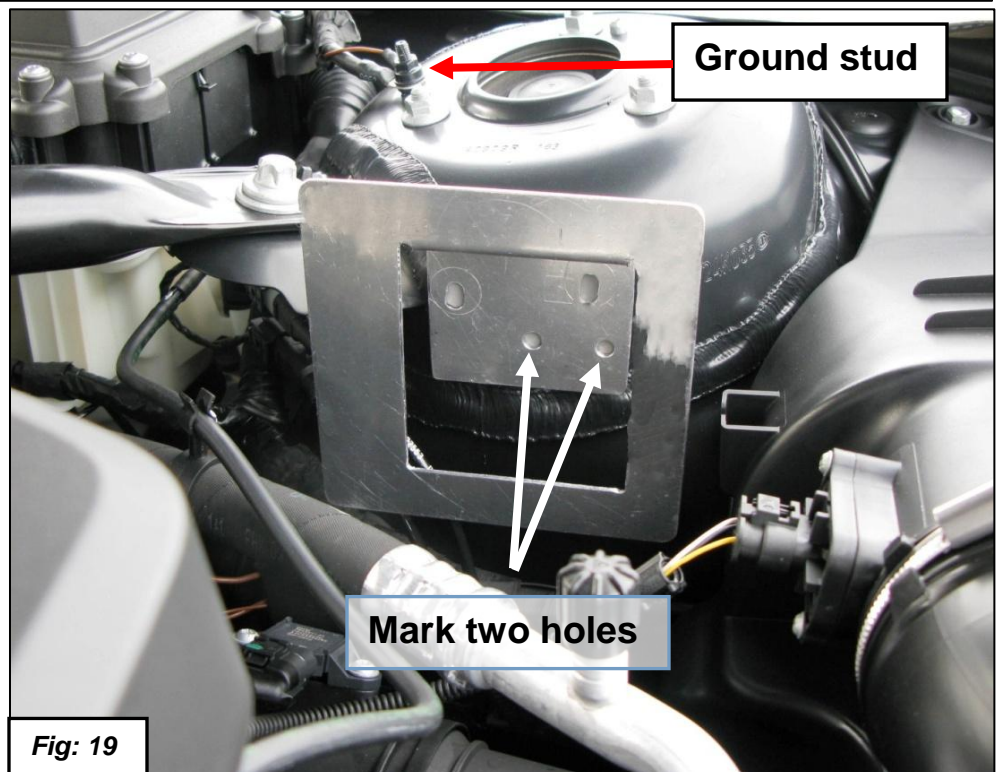
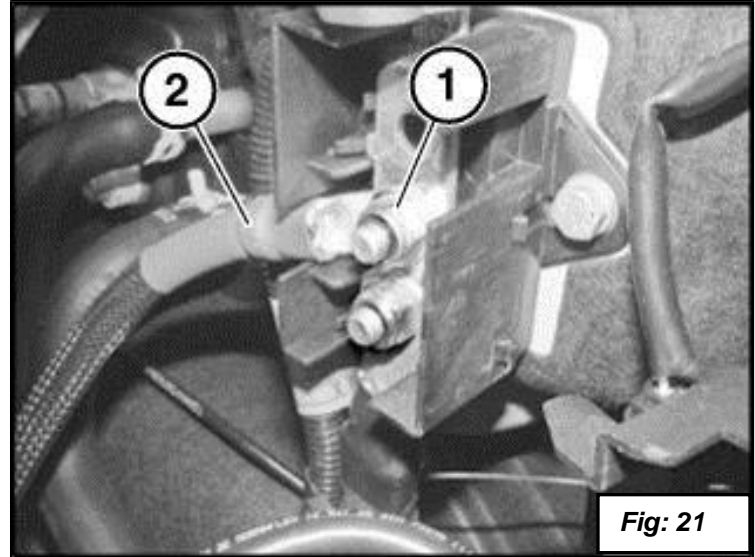

Fig: 19
Fig: 21
26. The DINANTronics box bolts to the strut tower thru two holes you will drill in the tower. Place the bracket just above the body sealer on the strut tower and mark the two holes shown in figure 19.
31. Remove the cover that is over the power wire (2) on the fire wall. Remove the nut (1) holding the power wire to the terminal and connect the DINANTronics power wire there. See figure 21. If your harness has a ground wire connected to the ground stud shown in figure 19. Secure the wire with zip ties.